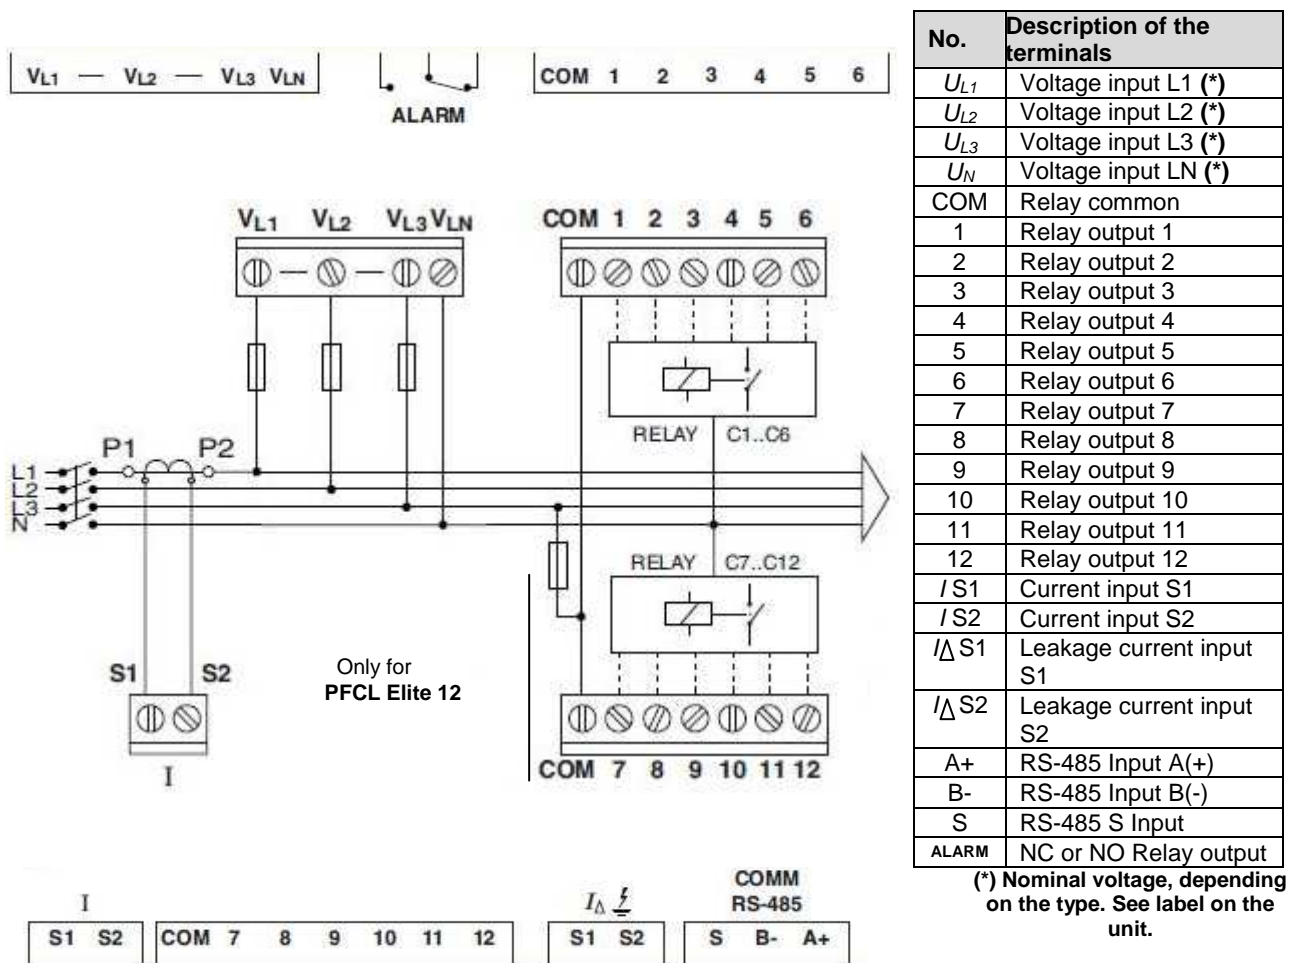

Fig. 2.2.- PFCL Elite 6/ PFCL Elite12 Connection diagram
The current transformer (CT) should preferably be connected to phase L1, while the voltage connections should be connected to phases L1, L2 and L3 (see diagram in Fig. 2.2). Connections P1, P2, S1 and S2 shown on the said diagrams should be respected. In case the connection layout mentioned above is not respected, the phase must be adjusted, following the procedure described in section 5.5.